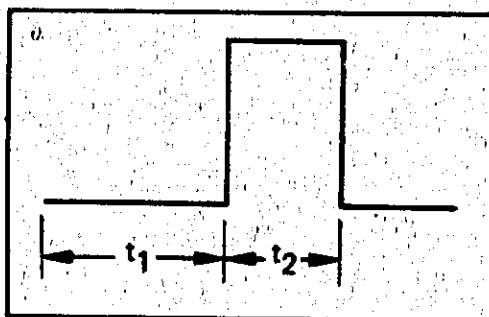

Figure 5-4. Oscilloscope Display of Waveform Symmetry
- g. Adjust scope for display as shown in Figure 5-4.